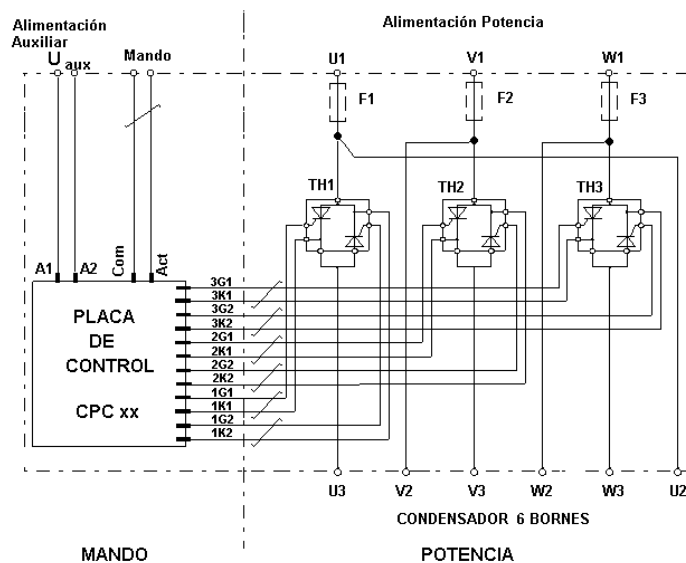

Fig. 4-3 .- Basic connection diagram of the **CPCxx** to the power block
Fig. 4-3 shows the different models of EMK static capacitor banks and their essential components. Note that some protection elements are optional and others may be replaced with equivalent models or adapted to the specific application.
The role of the CPCxx is to control the switching of the thyristors at zero voltage during the turn ON operation, thus avoiding current transients. The typical connection diagram of a single step is shown in Fig. 4-3 and in more detail in the simplified wire diagram in section 10.
- Ensure the inner circuit breaker protecting the regulator (fig. 4.3) is connected